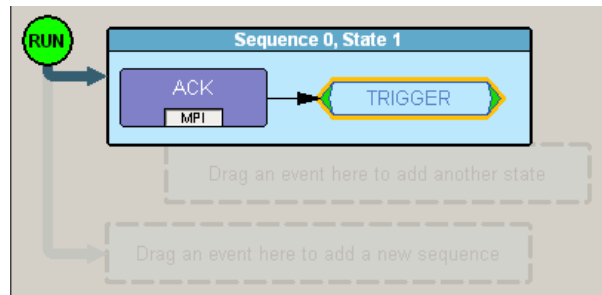

Figure 7.21 Example 1: Complete Rule
Figure 7.21 shows the completed event-action sequence.
Step 1 From example 1, the ACK is the first event in the state (Figure 7.21).